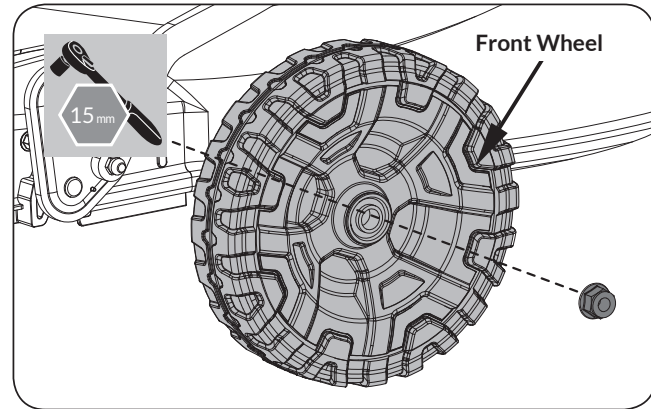

Figure 37
3. Assemble the new wheel with wheel nut. (See **Figure 37**)